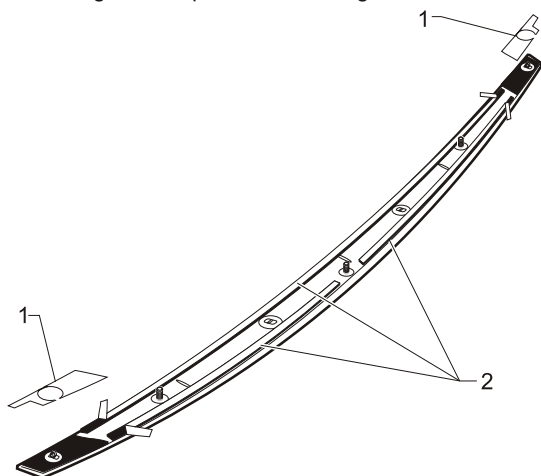

FIGURE 11
31. Pull the tabs (1) on the adhesive backing tape across to the rear edge of the spoiler. Refer to figure 11.